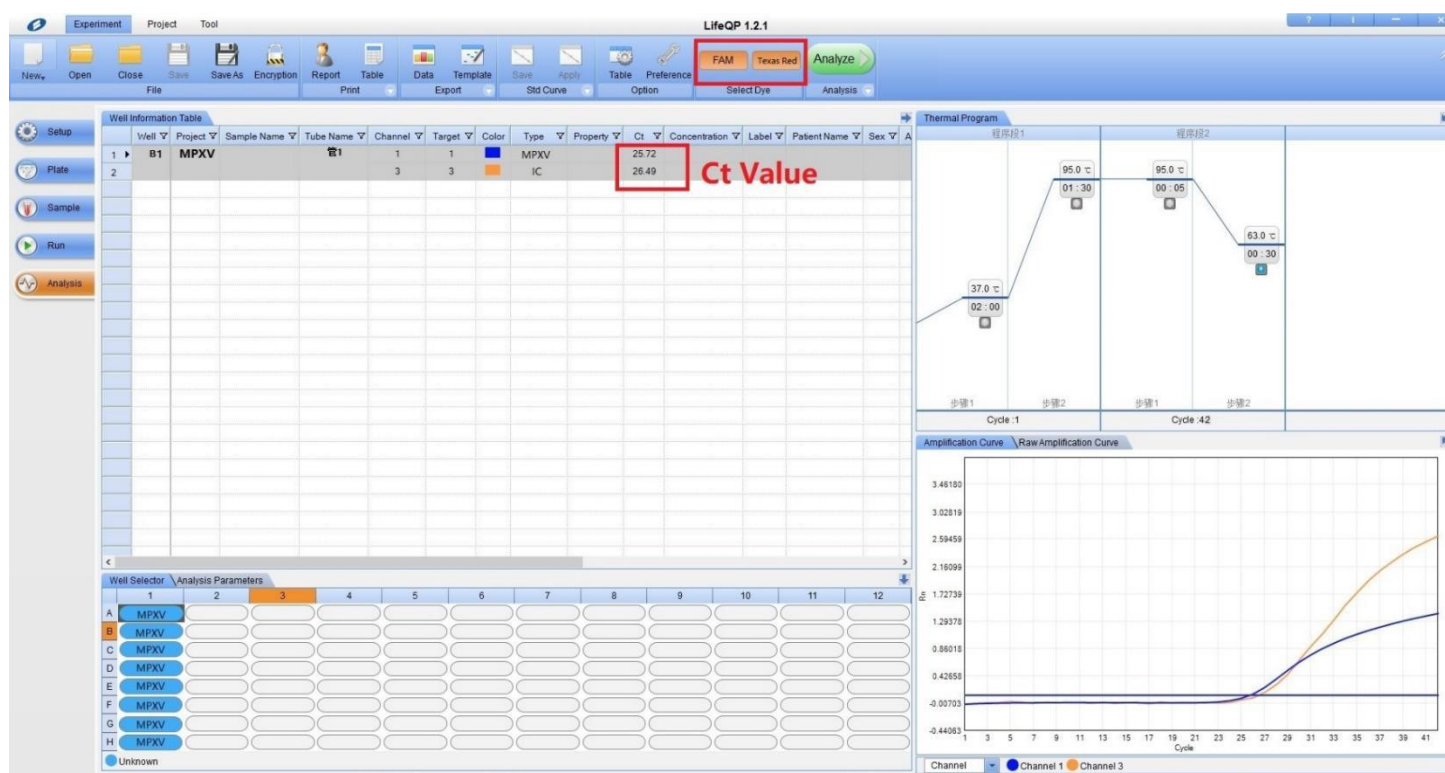

Figure 3. View Well Table on Life9600 (Software Version LifeQP 1.2.1)
- 3) Click the  button and choose the channel, and then select the well to read the Ct value (see **Figure 3**) on the upper left side and amplification curve on the lower right side. The amplification results of MPXV target gene are shown in the FAM channel. The test results of Internal Control are shown at the Texas Red channel.